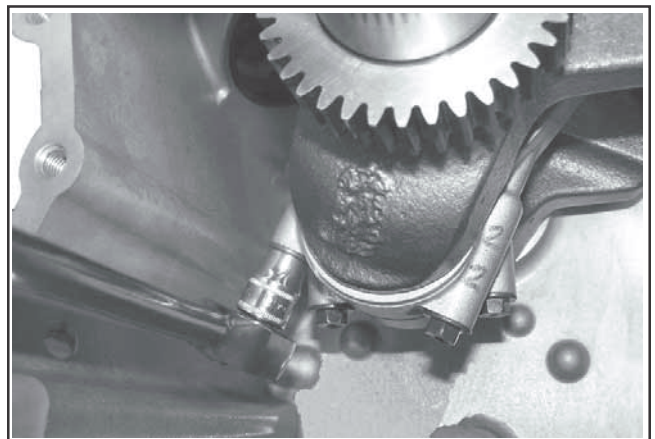

Figure 8-56. Removing Connecting Rod Screws.
1. Remove the two hex flange screws securing the closest connecting rod end cap. Remove the end cap. See Figure 8-56.